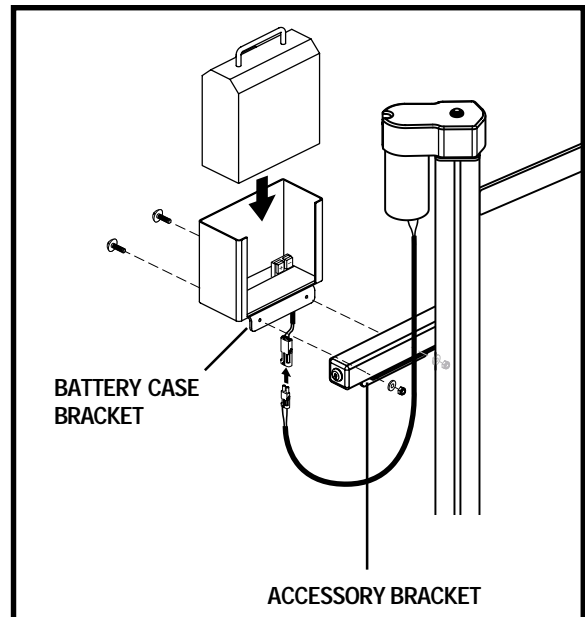

Figure 5. Onboard Battery Installation
1. Align the mounting holes in the battery case bracket with those in the accessory bracket located under the key switch tube. See figure 5.
2. Secure the battery case to the accessory bracket with the supplied hardware. See figure 5.
4. Plug the battery cord on the bottom of the battery case into the mating connector running from the motor. See figure 5.